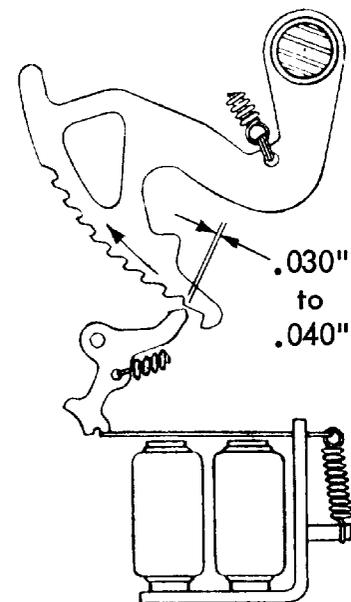

FIGURE 10
6. Continue to turn the machine over until the stop pawl overlaps the 1 tooth approximately .030 inch to .040 inch (shown in Figure 10 for lower half of the unit). Check to see that all upper contacts are still transferred (broken on the N/C side and still fully made on the N/O side).
7. With the upper bail latched, unlatch the lower bail. Turn the machine over until the stop pawl overlaps the 1 tooth approximately .030 inch to .040 inch (Figure 10). Check to see that all lower contacts are still transferred (broken on the N/C side and still fully made on the N/O side).